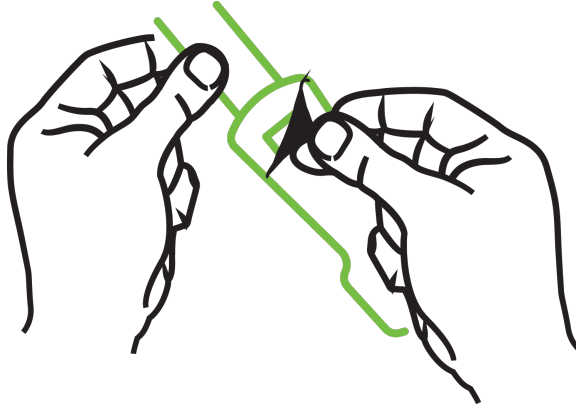

Figure 10-10: Removing protective liner from sensor
2. Remove and discard the protective liner from the sensor (Figure 10-10 on page 133).